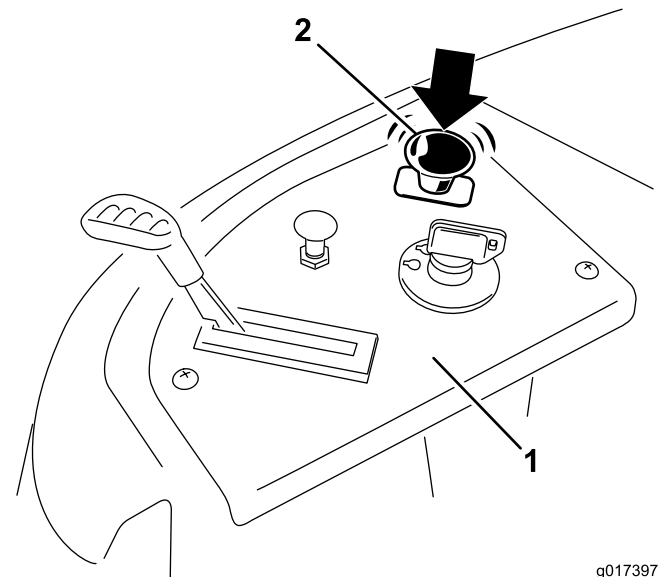

**Figure 15**
3. Pull up on the blade control switch to move it to the On position and engage the blades (Figure 15).